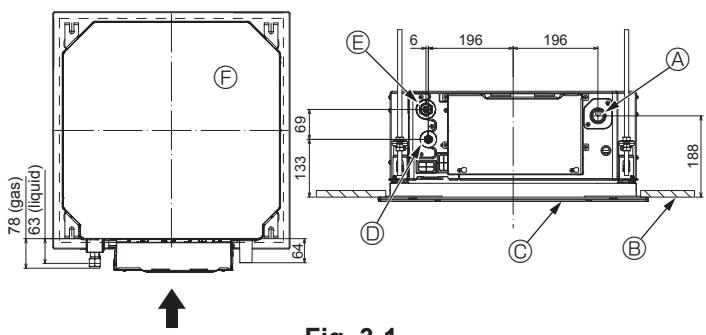
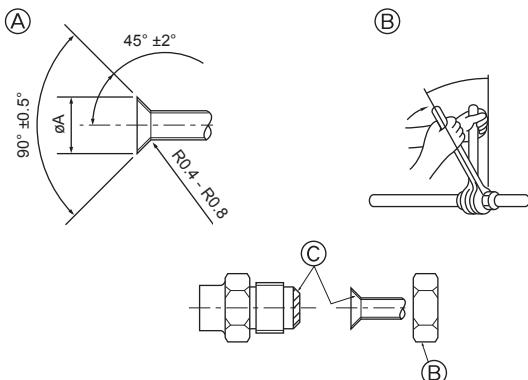

Fig. 3-1
Fig. 3-2
3.1. Refrigerant and drainage piping locations of indoor unit (Fig. 3-1)
- (A) Drain pipe
- (B) Ceiling
- (C) Grille
- (D) Refrigerant pipe (liquid)
- (E) Refrigerant pipe (gas)
- (F) Main unit
3.2. Connecting pipes (Fig. 3-2)